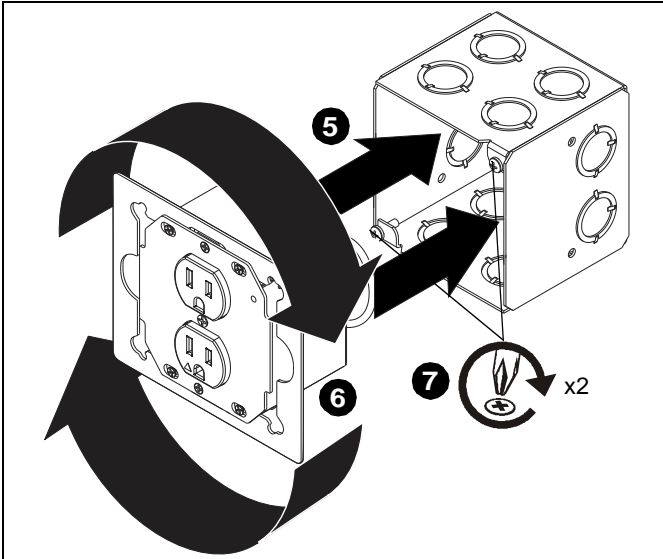

Figure 4
- Replace the outlet box into the EGX-SF2 housing. (See Figure 4)
- Rotate outlet box clockwise until it is in proper position to be secured to the EGX-SF2 housing. (See Figure 4)
- Tighten two Phillips screws to secure outlet box to EGX-SF2 housing. (See Figure 4)